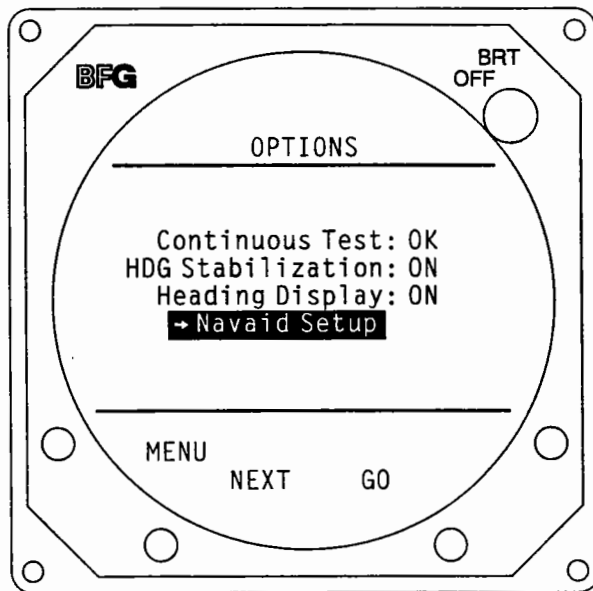
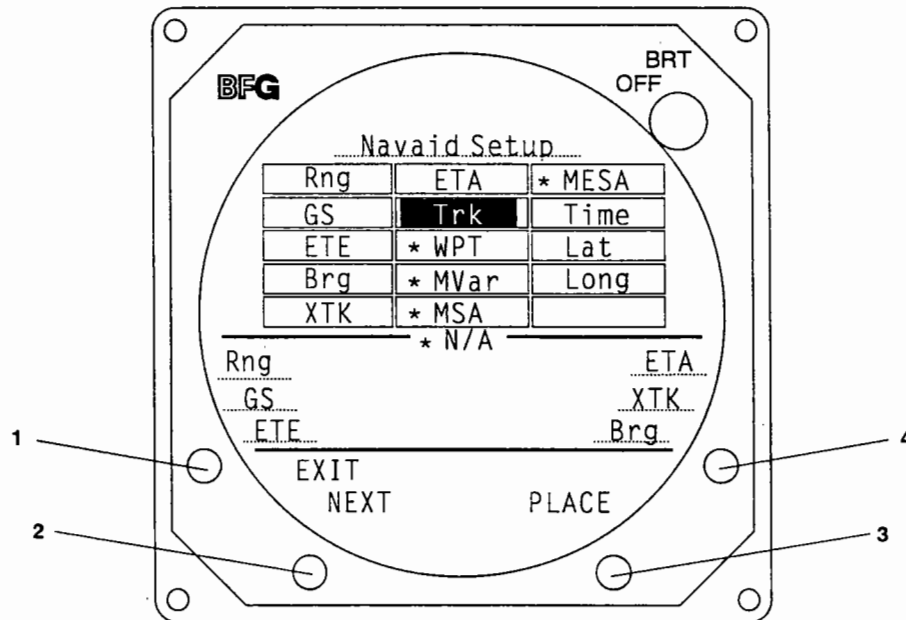
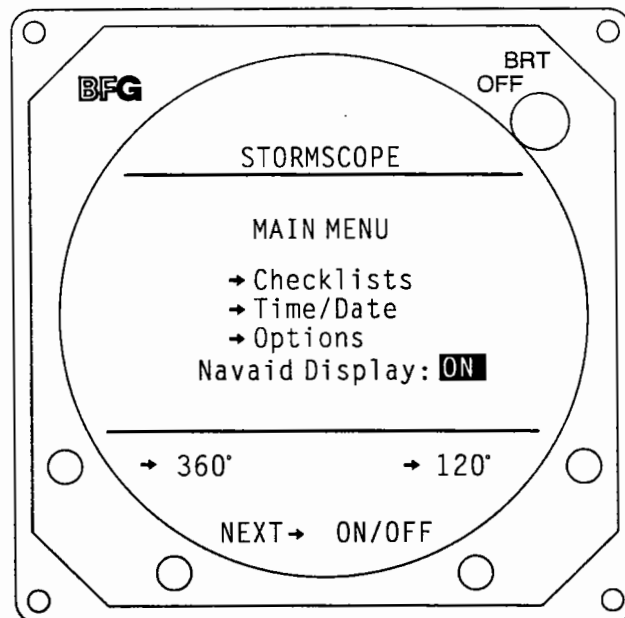

Figure 3-11. Options Presentation
Figure 3-13. Navaid Setup Presentation
Figure 3-15. Navaid Display Status
Pressing **GO** with the Options mode high-lighted on the Main Menu will cause the **OPTIONS** mode to be displayed. The **OPTIONS** mode displays the results of the continuous self-test and allows the operator to initiate a complete self-test. Figure 3-11 shows the Options Mode.
In the WX-1000+, the Options mode also allows manual disabling of the heading stabilization and heading display if a compass failure should occur without causing a flag condition. When operating with heading stabilization, the operator may elect to have the heading display "ON" or "OFF" when in any weather mode. The buttons perform the following functions (figure 3-11):
Figure 3-13 shows the Navaid Setup display.
This item will be on the Options menu only if the Navaid Option is installed. Pressing GO with Navaid Setup highlighted will cause the Navaid Setup mode to be displayed. The mode enables an operator to select up to six items of navigational data to be shown on all *Stormscope* weather mapping displays. The first six items shown in the display grid are default items. When a *Stormscope* system with a newly installed Navaid Option is powered up for the first time, these items will be displayed on all weather screens. The item display can be switched off, or individual items can be changed or replaced with a blank. The buttons perform the following functions (figure 3-13):
1. **EXIT** returns the display to the Options menu (figure 3-11).
The navigational items on the six lines will be displayed in the same relative position on all weather mapping displays (if the function is on). Pressing **EXIT** (figure 3-13) will return the display to the Options menu (figure 3-11). Pressing **MENU** in this display will bring back the Main Menu (figure 3-15). Once an item is set, it will be displayed in the set position each time the system is powered up, unless a new item is set in that position.
The ON/OFF status refers to the display of the navigational items selected in the Navaid Setup Mode of the Options menu. Figure 3-15 shows the Main Menu with Navaid Display selected. (Only the "ON" is high-lighted.)